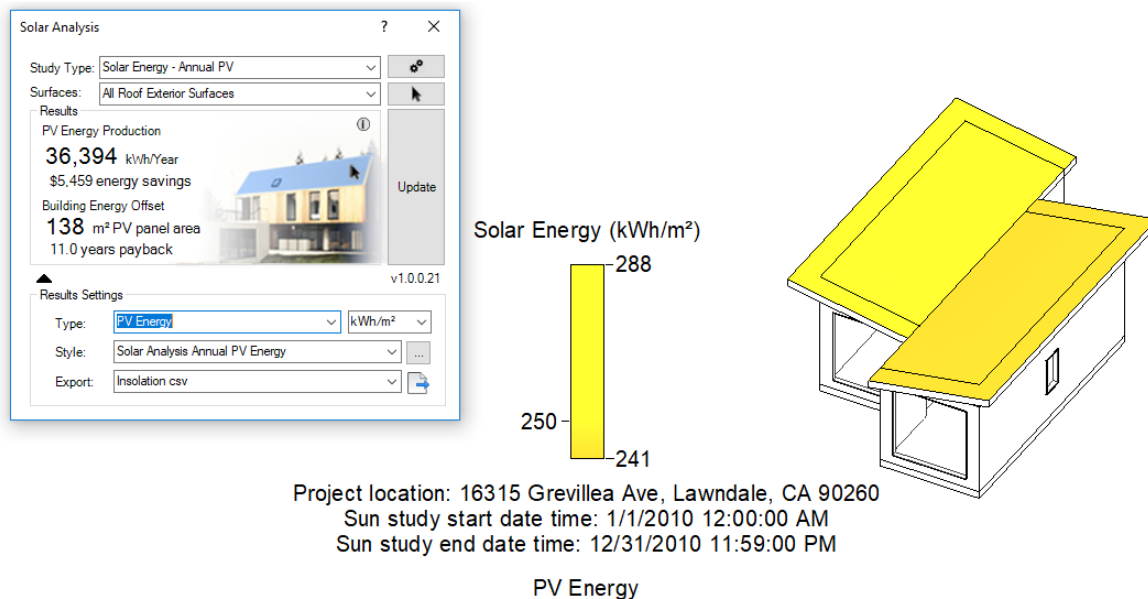

Figure 4.4: Solar analysis results
4. Study Settings summarize the area and time range selected for your analysis. To change the date and time range, edit the Sun Settings for the 3D view you have active, see Figure 4.4.
Once the analysis is complete, the “Solar Analysis” dialog will update with a results summary and results will appear in your active 3D view, see Figure 4.4.